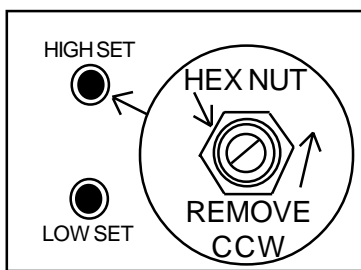

FIGURE 2
STEP 2, REMOVE HIGH SET KNOB (HEX SCREW REMOVES CCW). STEP 3 (FIG. 2), REMOVE CONTROL HEX NUT BY TURNING CCW. STEP 4, GENTLY PULL CONTROL PANEL UP AWAY FROM BASE, DO NOT STRAIN WIRES! STEP 5, WHILE PRESSING ON CONTROL SHAFT APPLY A SOLDERING IRON (NOTE 1) TO EACH OF THE CONTACT PADS WHERE THE CONTROL PINS ARE SOLDERED, ONE AFTER THE OTHER WHILE APPLYING PRESSURE TO THE CONTROL SHAFT; THE CONTROL SHOULD SEPARATE FROM THE CIRCUIT BOARD.